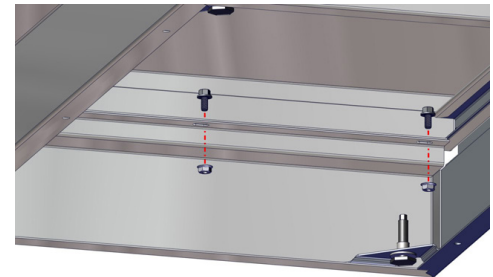

Fig. 14: Attach Base and Cabinet
6. Secure the cabinet to the base using the Locking Hex Bolts and Flanged Hex Nuts (provided) in the six holes on the sides of the base and cabinet (Fig. 14).